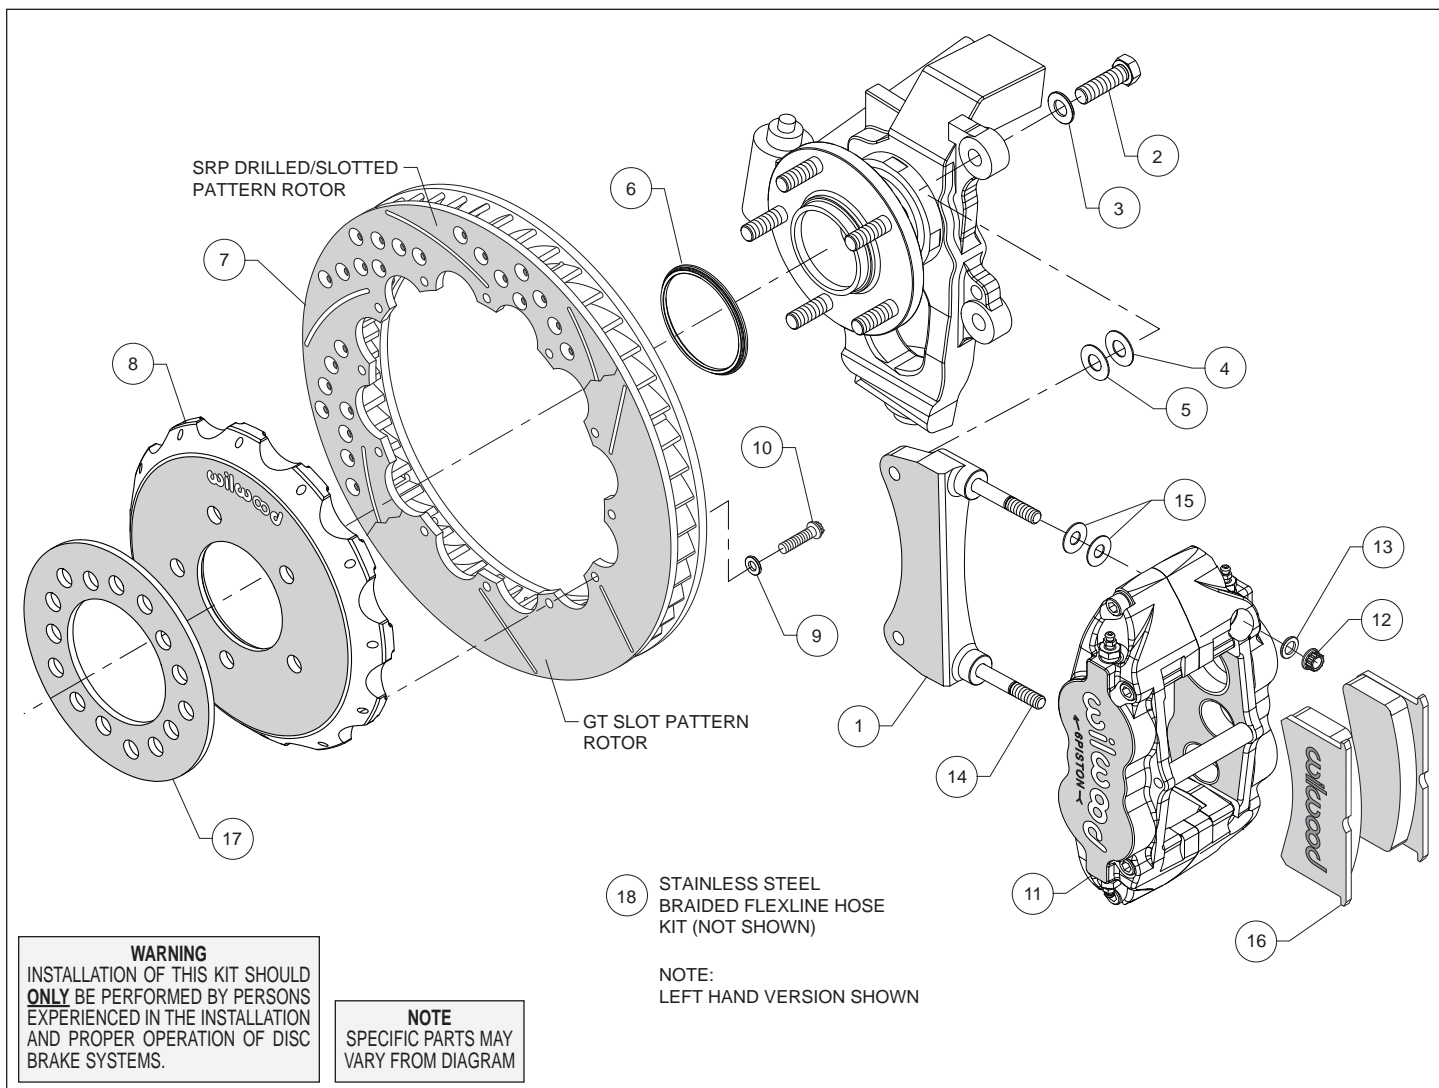
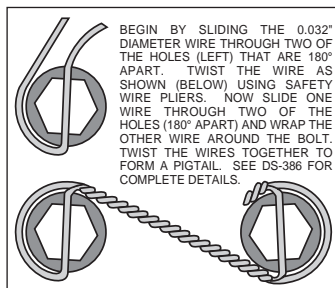

Figure 1. Typical Installation Configuration
Figure 3. Safety Wire Diagram
**Assembly Instructions** (numbers in parenthesis refer to the parts list and Figure 1 on the preceding pages):
- The caliper mount bracket (1) should initially be installed with clean, dry threads on the mounting bolts. Orient the bracket as shown in Figure 1 and Photo 1, and install using washers (3) and bolts (2). Initially place one .033 thick shim (4) and one .015 thick shim (5) on each bolt between the bracket and upright, Figure 1. Temporarily tighten the mounting bolts. **NOTE:** *The bracket must fit squarely against the mount bosses on the upright.* Inspect for interference from casting irregularities, machining ridges, burrs, etc. Later, after the caliper alignment has been checked, the mount bolts will be secured using red *Loctite*® 271.
- Orient the rotor (7) and the hat (8) as shown in Figure 1 and Photo 2. Attach rotor to hat using bolts (10) and washers (9). Using an alternating sequence, apply red *Loctite*® 271 to the threads, and torque to 155 **in-lbs**. For an added measure of security, the bolts may be safety wired using standard 0.032 inch diameter stainless steel safety wire as shown in Figure 3. Please refer to Wilwood's data sheet DS-386 (available at [www.wilwood.com/Pdf/DataSheets/ds386.pdf](http://www.wilwood.com/Pdf/DataSheets/ds386.pdf)) for complete safety wire installation instructions.
- Slide the rotor registration adapter (6) onto the axle register on the axle hub with the smaller O.D. facing outward, Photo 3. Slide the hat/rotor assembly onto the axle hub. **NOTE:** *The hat must fit flush against the axle hub flange or excessive rotor run out may result.* Install three lug nuts (finger tight) to keep the hat/rotor assembly in place while continuing with the installation.
- NOTE:** *This kit contains distinct right and left hand calipers that must be mounted in a specific direction, as described below.* Lubricate the caliper mounting studs (14) with lightweight oil. Initially place two .035" thick shims (15) on each stud as shown in Figure 1 and Photo 4. Mount the caliper (11) onto the bracket (1) using lock nuts (12) and washers (13), Figure 1. Ensure that the caliper is mounted so that the largest pistons are at the rotor exit end of the caliper, in relation to the direction of rotor rotation. Temporarily tighten the lock nuts and view the rotor through the top opening of the caliper. The rotor should be centered in the caliper, Photo 5. If not, adjust by adding or subtracting shims (4 and/or 5) between the bracket and the upright. Always use the same amount of shims on each of the two mounting bolts. Once the caliper alignment is correct, remove the bracket mounting bolts (2) one at a time, apply red *Loctite*® 271 to the threads, and torque to 60 ft-lb.
- Install the wheel spacer (17) against the hat face, Figure 1 and Photo 8. **NOTE:** *Spacer is required to clear stock wheels.* Temporarily install the wheel and torque the lug nuts to the manufacturer's specification. Ensure that the wheel rotates freely without any interference.